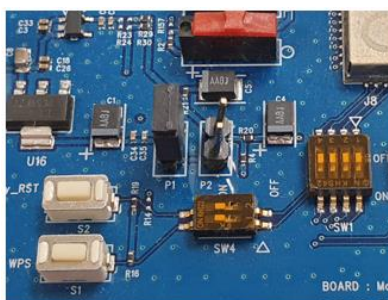

Figure 51: Set Up DA16200 EVB Jumper
2. Open the two jumpers (P2) of the power line on the DA16200 EVB as shown in Figure 51.